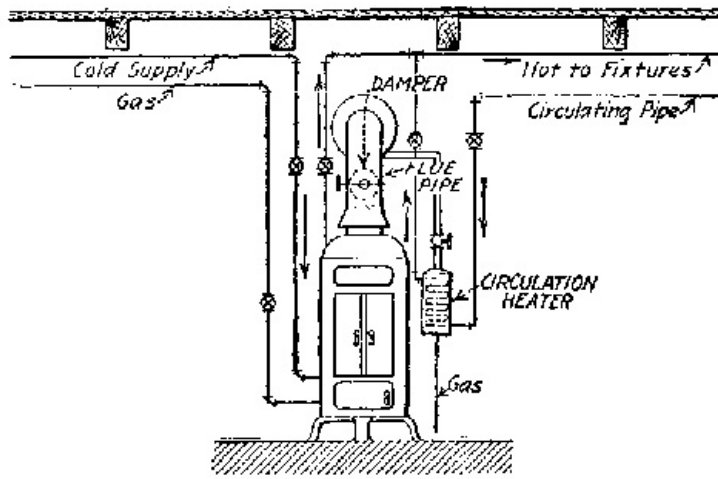

**Fig. 71.—Storage tank, and coil heater with thermostatic control valve.**
**Connections of Tank and Heating Apparatus.**—The ordinary house boiler or hot-water storage tank has four connections, two on top, one on the side, and one on the bottom. The top connections are used for the entrance of cold water into the tank and for the supply of hot water to the fixtures (see Fig. 71). The cold-water inlet has a tube extending into the tank below the side connection. This tube has a small hole filed in it about 6 inches from the top. This hole is to break any syphonic action that may occur at any time. The side connection is for the connection of the pipe coming from the top of the water back. The bottom opening in the tank is for the connection of the pipe coming from the lower water back connection, also for draining the boiler. The circulation of the water can be followed thus: cold water enters the boiler in the tube and discharges into the boiler below the side connection. From here it flows out of the bottom connection into the water back, through the upper connection into the boiler, through the side opening, then to the top of the boiler and out to the fixtures through the fixture supply opening.